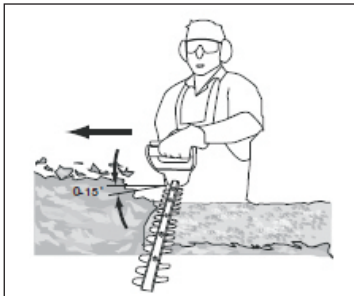

Fig. 22
7. After cutting the sides proceed to the top (Fig. 22). Try to keep the cutting device angled at approximately 15° to the cutting surface.